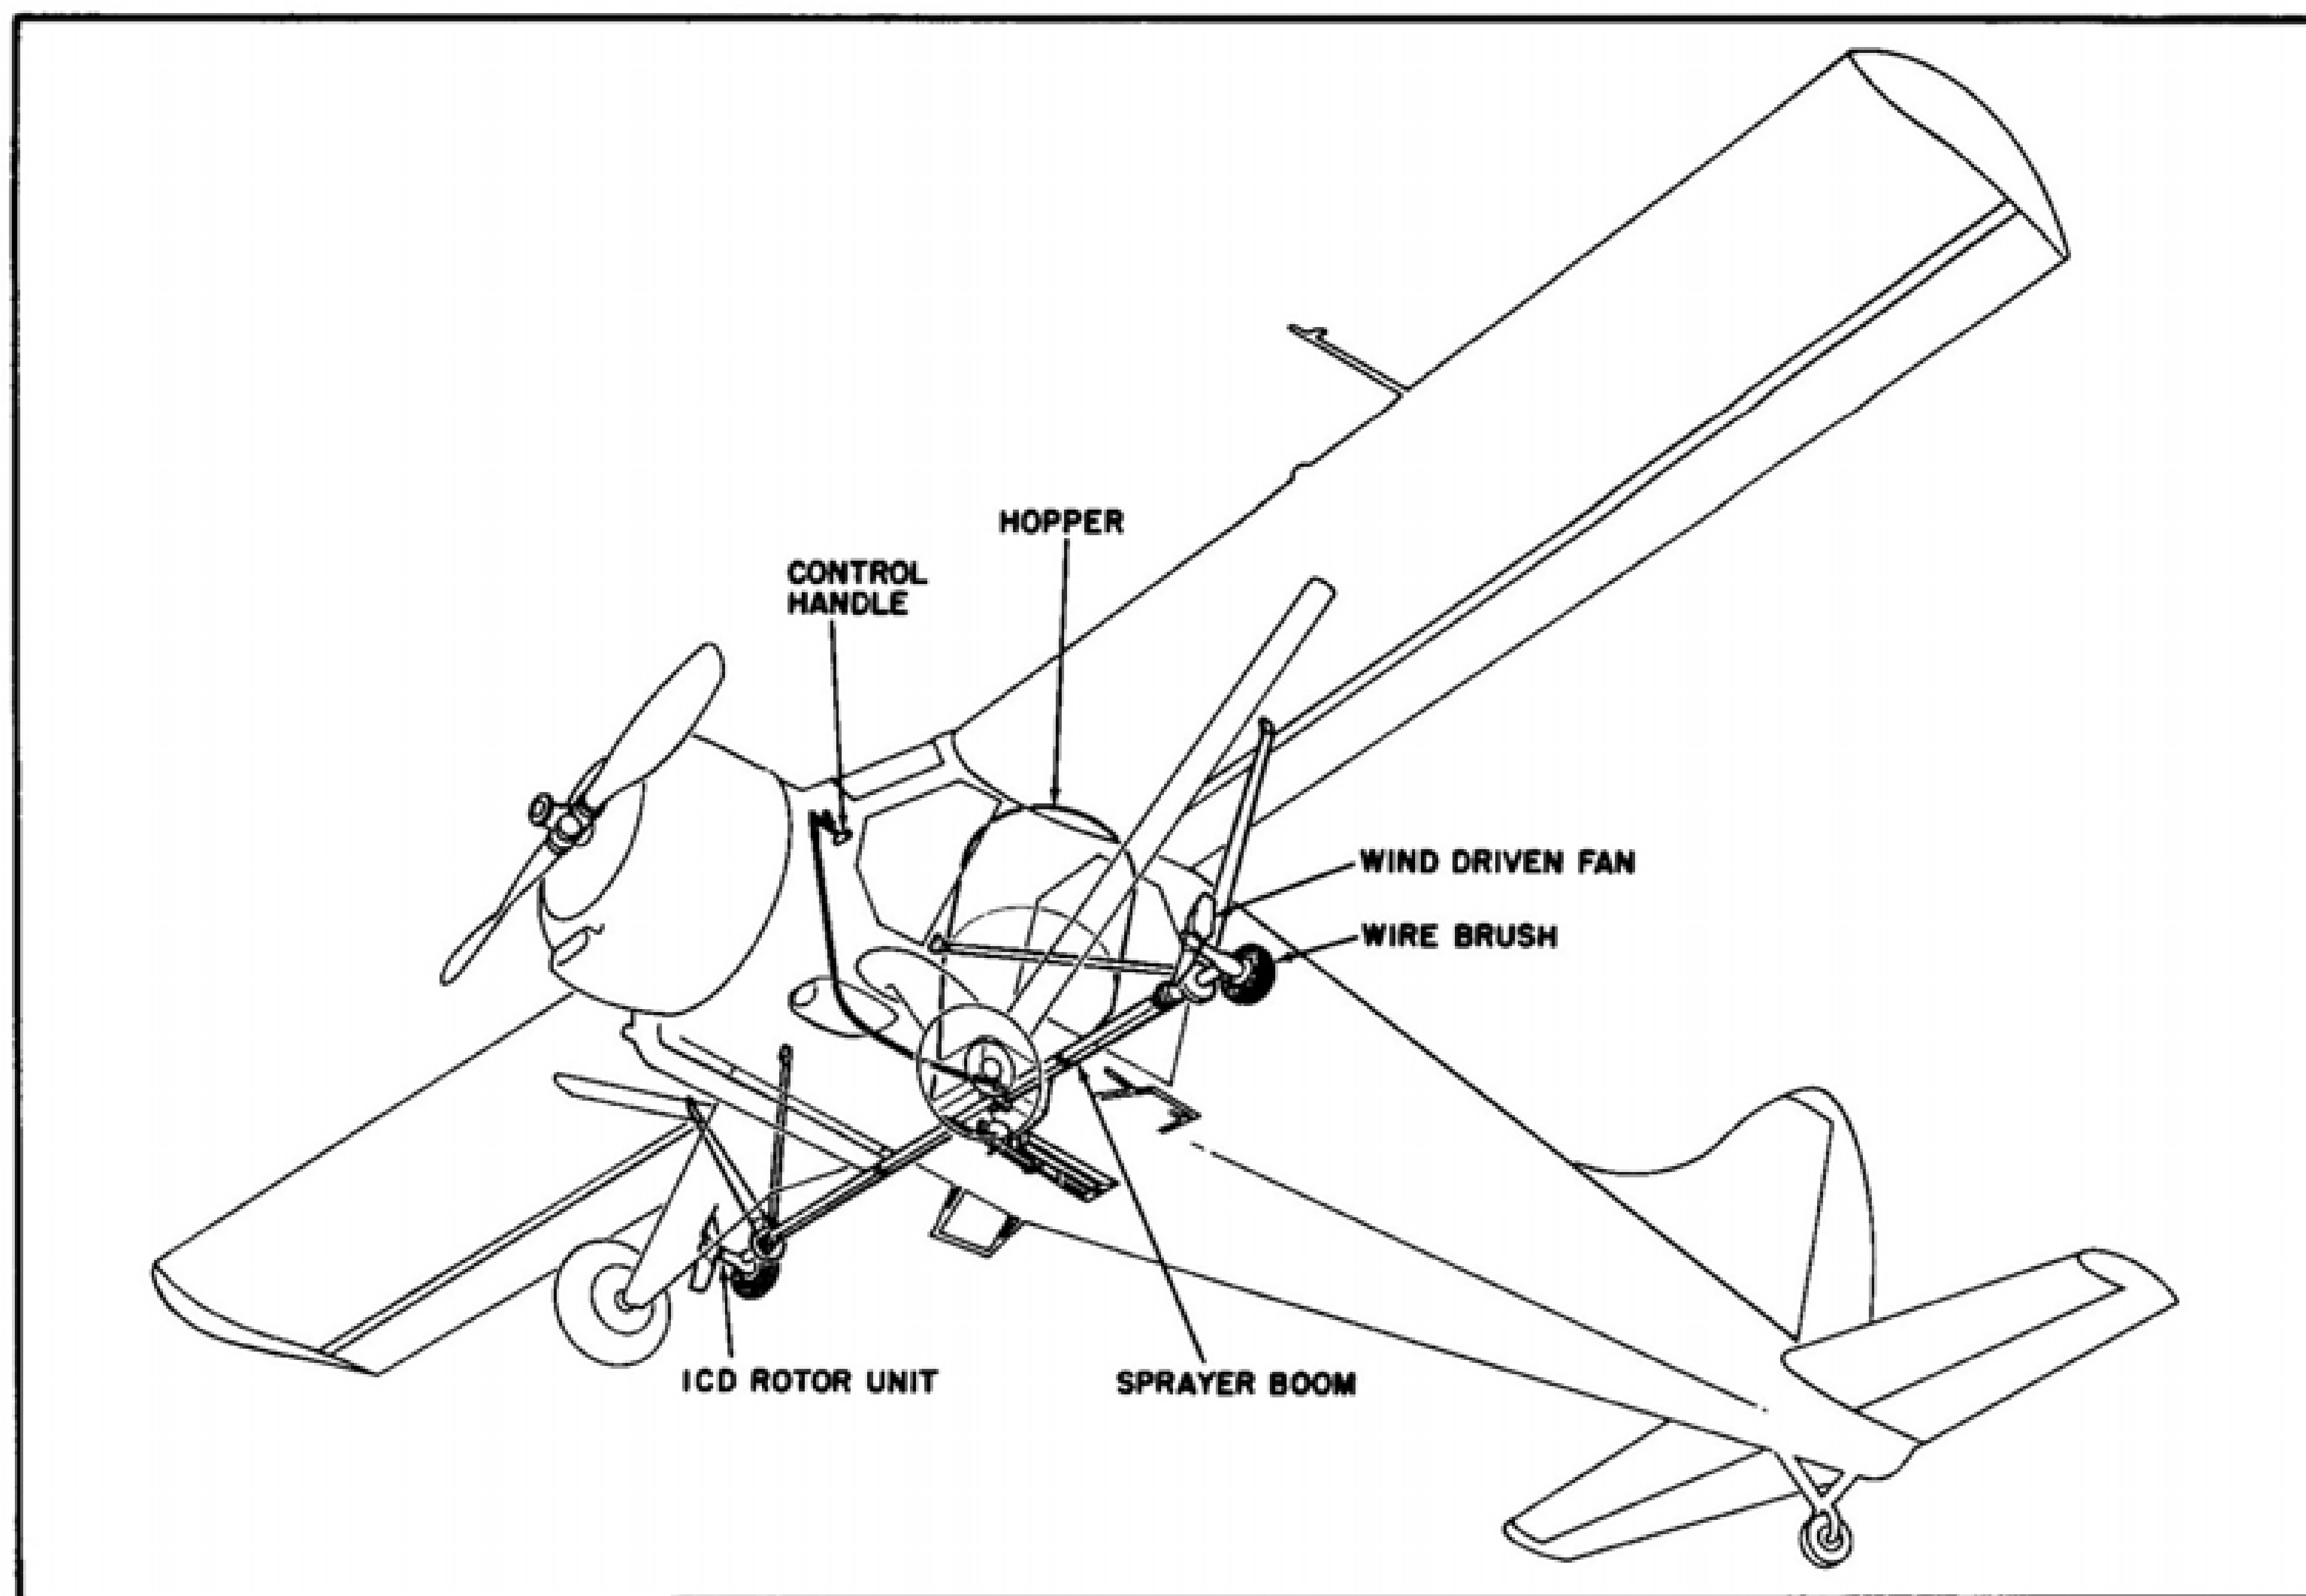

FIG S1-3 ALTERNATIVE SPRAYER INSTALLATION
2.3 Alternative Sprayer Installation (See Figure S1-3)